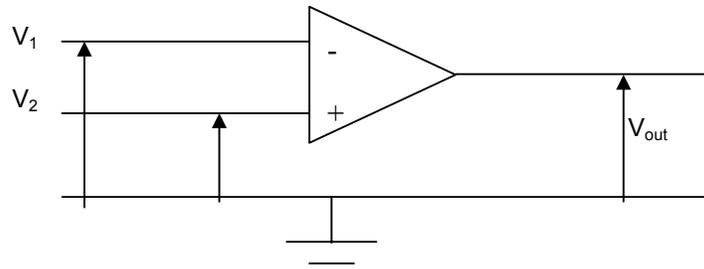

FIGURE 7.3 – VOLTAGE COMPARATOR
7.4 Determine the output voltage (V_{out}) of the voltage comparator shown in FIGURE 7.3 with the following input: